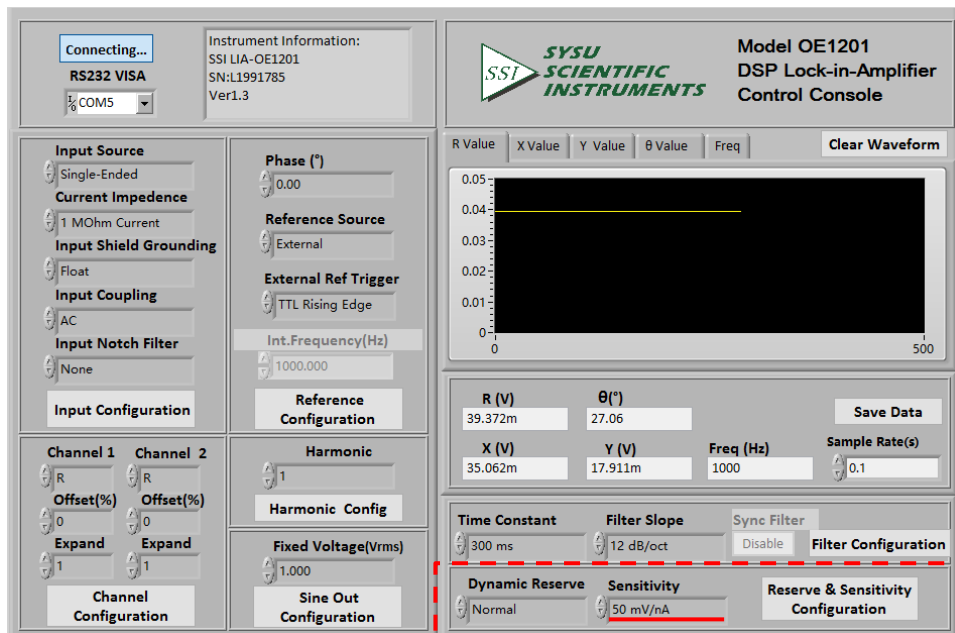

Fig.51 Reserve & Sensitivity Configuration
4) Choose these two options in “Reserve & Sensitivity Configuration”, including “Dynamic Reserve” and “Sensitivity” with other options in default, as is shown in Fig.51. At last, click